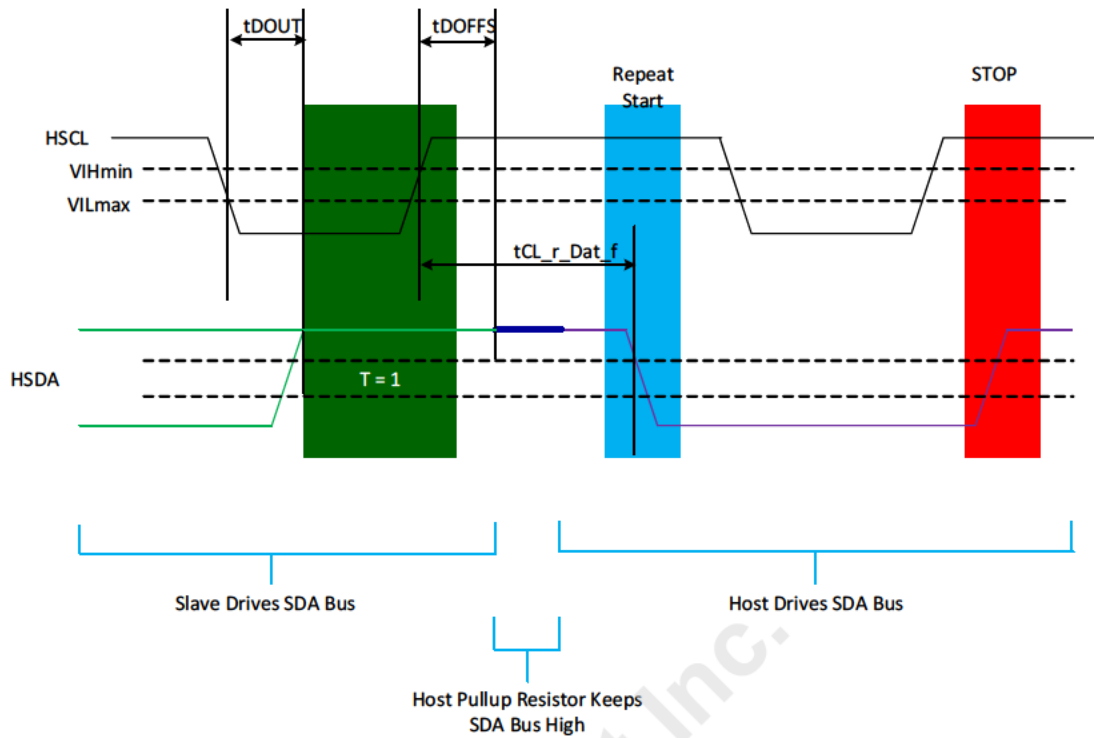

Figure 21 — T=1; Host Ends Read with Repeated START and STOP Waveform
7. See Figure 21 to see how Host ends slave device operation.
2. See Figure 21 to see how Host ends slave device operation.
4. See Figure 21 to see how Host ends slave device operation.